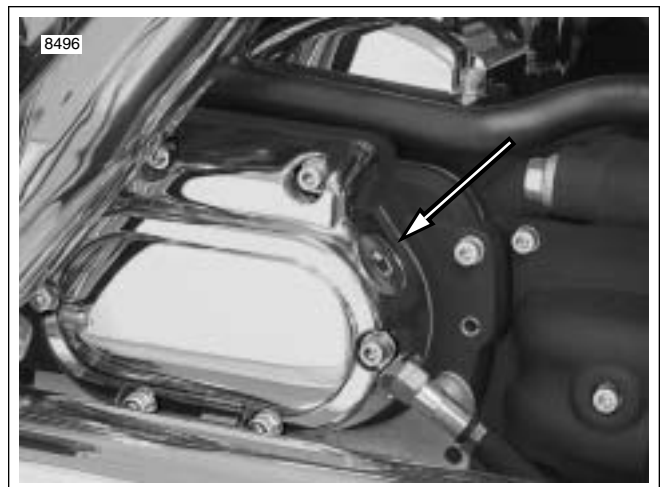
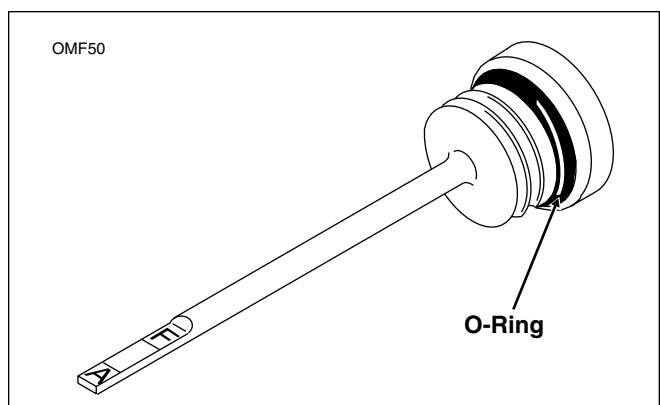

Figure 2-119. Clutch Release Cover
Figure 2-120. Transmission Lubricant Filler Plug/Dipstick
18. Remove the filler plug from the clutch release cover, if installed. See Figure 2-119. Check the O-ring for tears, cuts or general deterioration. Replace as necessary. See Figure 2-120.